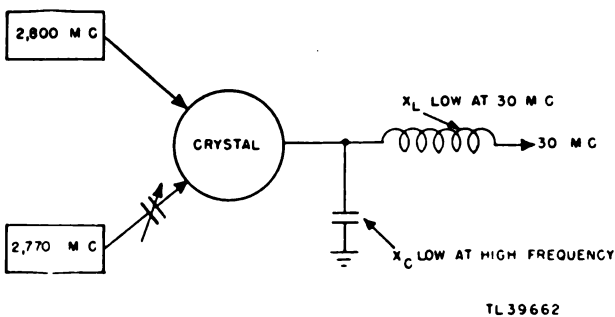
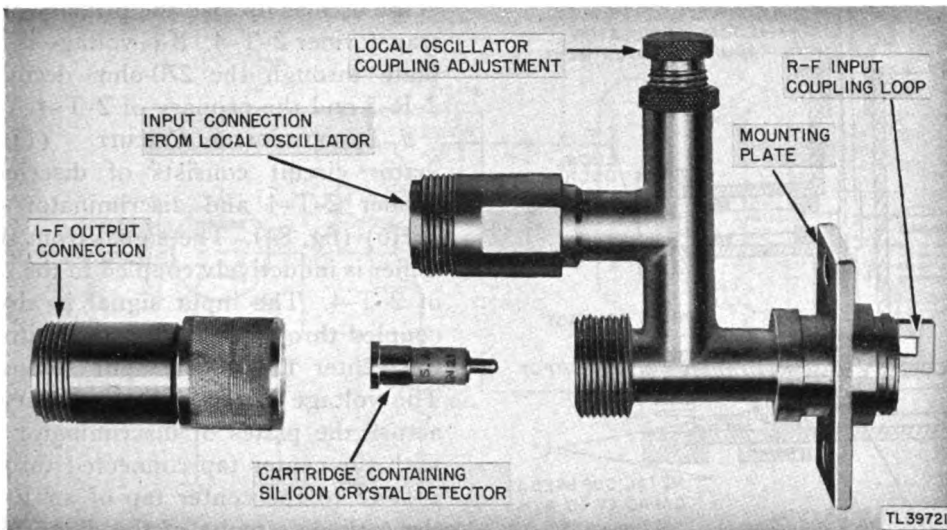
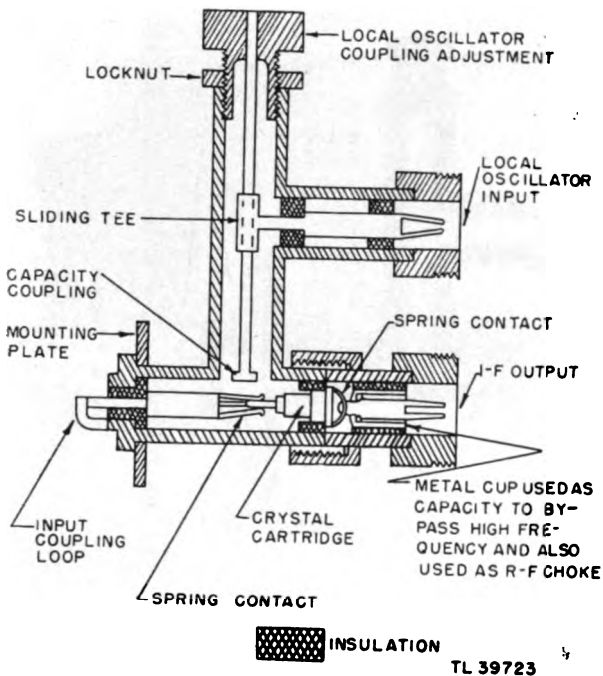

Figure 79. Crystal mixer circuit, simplified diagram:
Figure 80. A.F.C. crystal mixer, partially disassembled.
Figure 82. A.F.C. crystal mixer, cross-sectional diagram.
nals are mixed in a nonlinear device such as the crystal mixer, the output is the sum and difference frequencies as well as the original input frequencies. In most mixers the output used is the difference frequency, and therefore the others are no longer required and are usually filtered out. An example of such a mixer circuit is shown in figure 79. The frequency of the McNally oscillator tube 2-V-15 is adjusted to 30 mc below the frequency of the transmitting oscillator, and in the crystal mixer the two frequencies are combined to produce a difference frequency of 30 mc. The crystal mixer contains a specially designed silicon crystal detector. Figures 80 and 81 are photographs of the disassembled crystal mixer, showing the major features of its construction. Figure 82 is a cross-section drawing of the mixer with
(1) *Operation of A.F.C. crystal mixer.* The operation of the crystal mixer will be explained with the aid of figures 82 and 83. The r-f signal from the A.F.C. coupler enters a cavity made by the hollow shell of the mixer itself, with the coupling loop at the input end and the crystal at the output end. This cavity is designed to be resonant at the frequency (approximately 2,800 mc) of the input signal from the A.F.C. coupler. The loop at the input end has a low impedance, while the output end of the mixer cavity is open except for the crystal load, and so presents a relatively high impedance. The cavity is designed to act as a step-up transformer and therefore applies a high r-f voltage to the crystal. The local oscillator voltage from the McNally tube is capacitively coupled into the mixer cavity by means of the rod-and-disk coupling shown, through a sliding sleeve connection to the input line. The amount of coupling is made variable by means of a knurled thumbscrew.